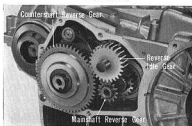

Fig. 7B-150
4. Pull the shift fork shaft and remove the spring pin followed by removing the selection gear and reverse gear shift fork together from the countershaft. (Fig. 7B-151)